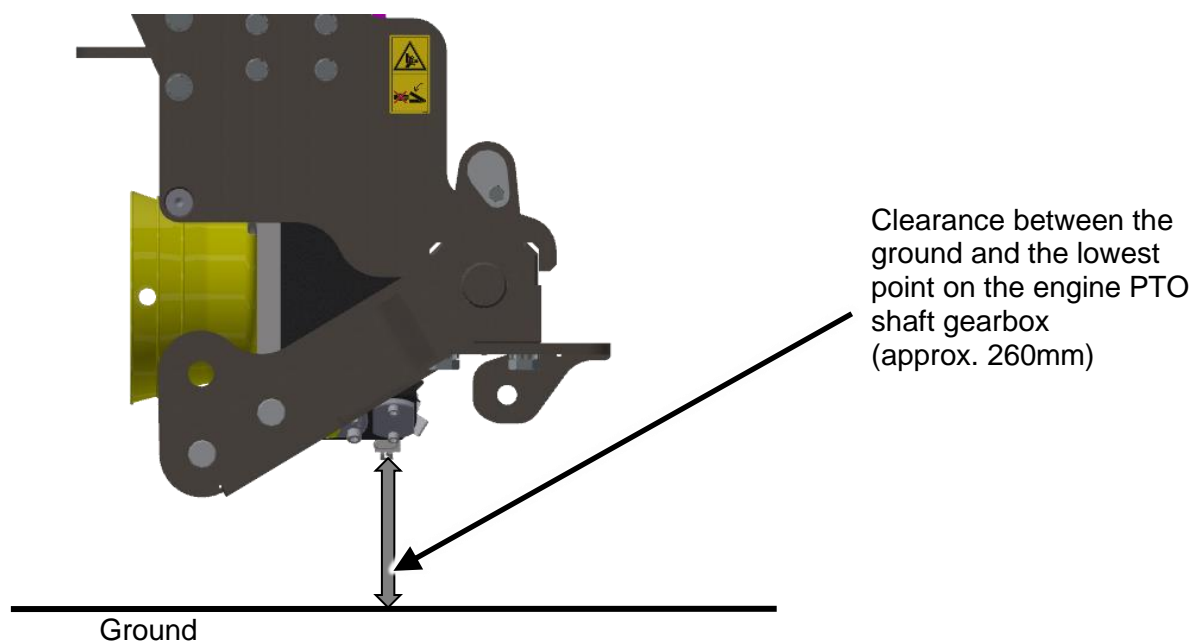

Fig. 10: Ground clearance engine PTO shaft NH Boomer 45/50/55
3. Unscrew both the oil fill plug and the oil drain plug and drain the oil. (see Figure 10 and 11).